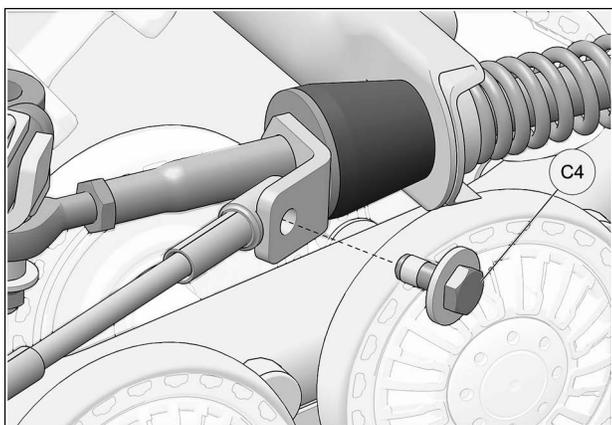

Fig. 30
18. Reverse steering wheel a little to be able to bolt support plate and cable together. Tighten provided bolt (C4) to 35 Nm [24 lb•ft]. See Fig. 30. Repeat steps on right side.